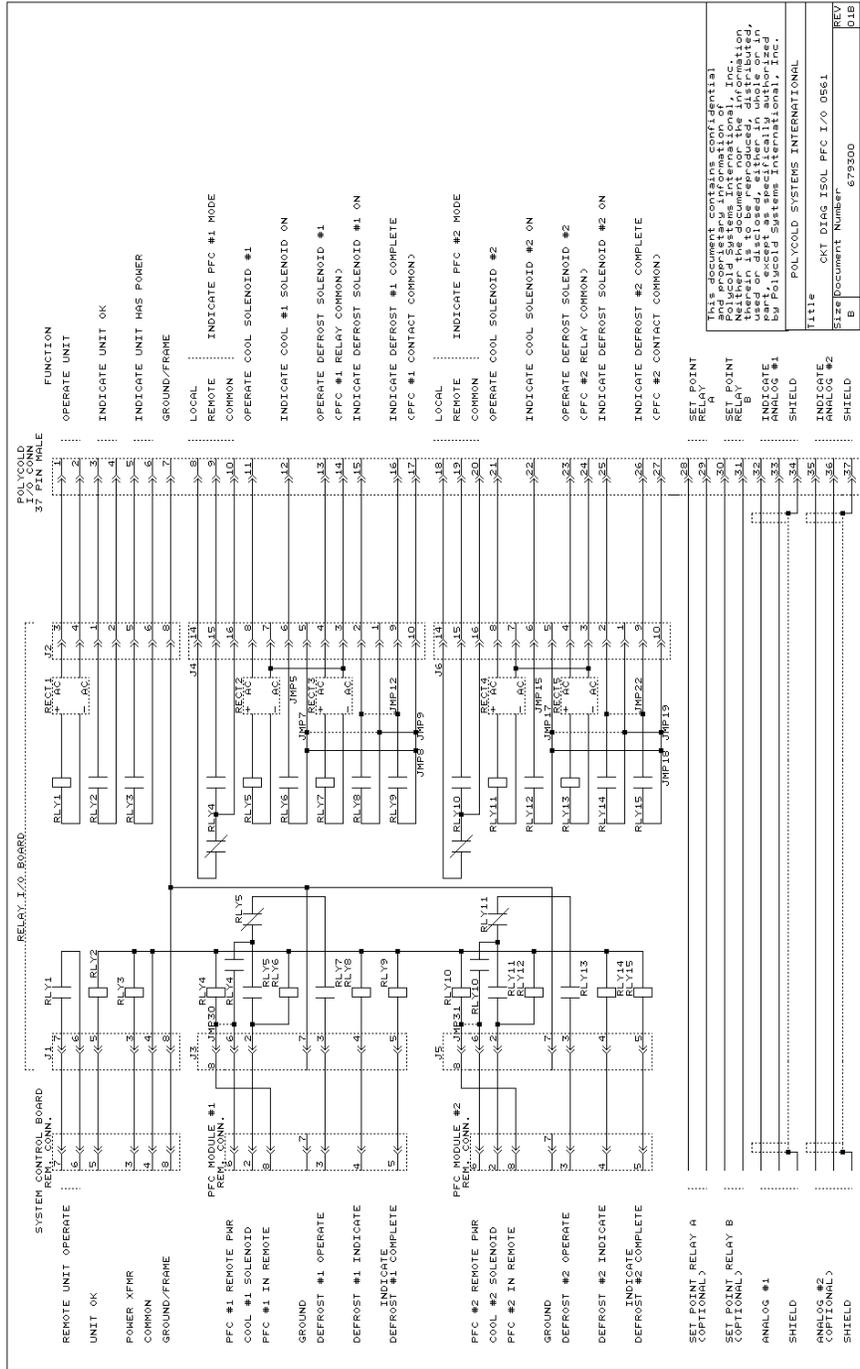
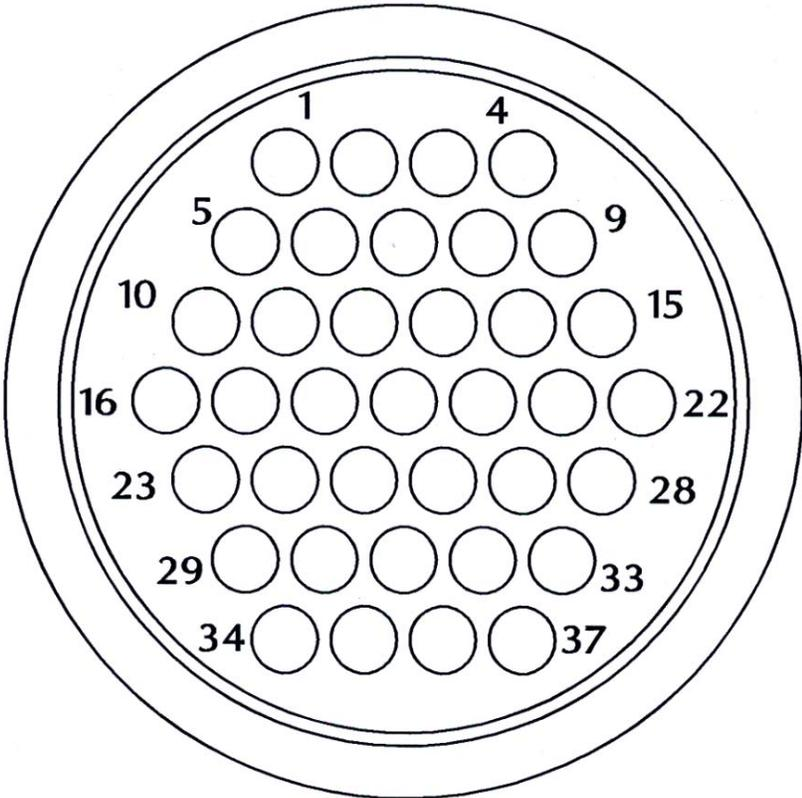

Figure 9-1: PFC and PFC/PFC isolated interface option—internal wiring
Figure 9-5: Isolated interface option – wire side of isolated I/O connector plug
- Disregard Figure 9-1 through Figure 10-8. See Figure 9-1 through Figure 9-5 and Table 9-4.